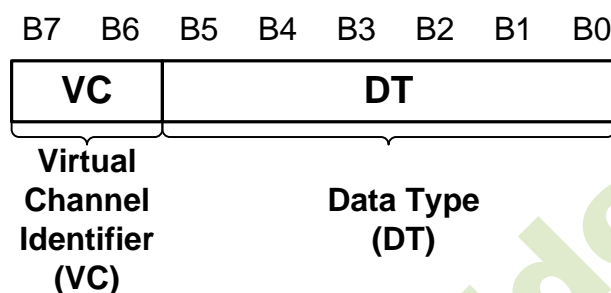

Figure. 7.10 Data Identifier Byte
The first byte of any packet is the DI (Data Identifier) byte. Figure 7.10 shows the composition of the Data Identifier (DI) byte. DI[7:6]: These two bits identify the data as directed to one of four virtual channels. DI[5:0]: These six bits specify the Data Type.